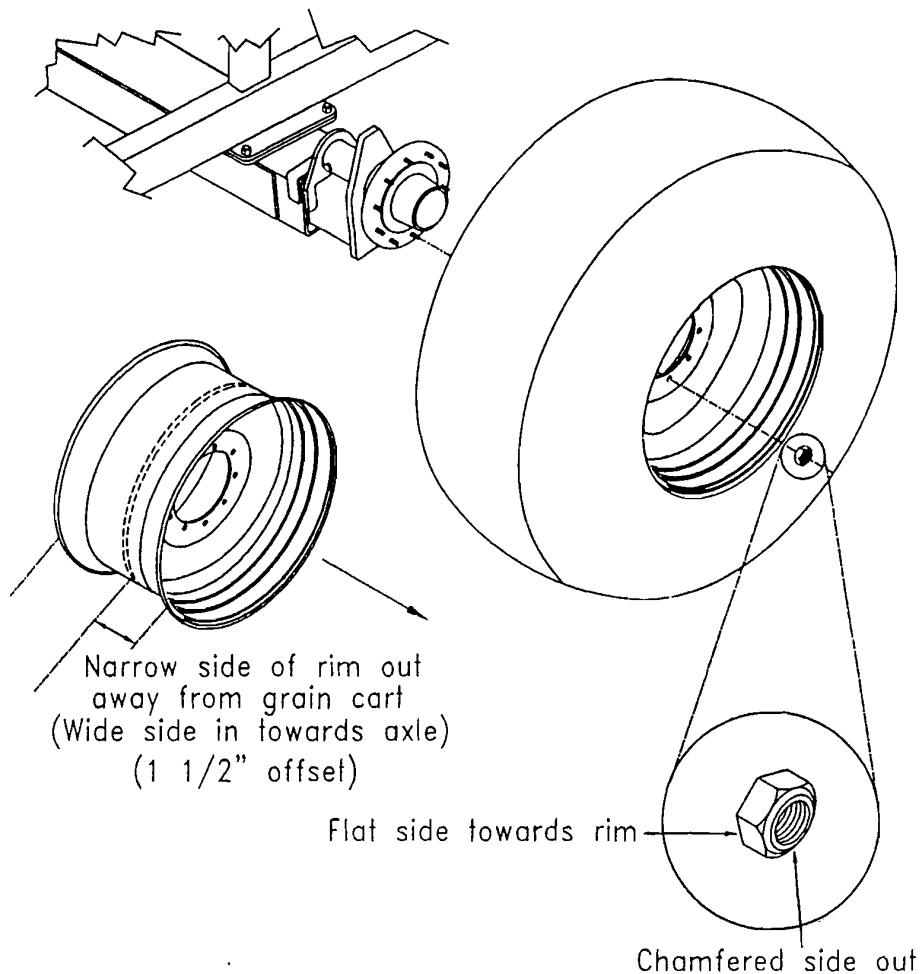

FIGURE 3
3. Mount wheels onto hubs with wide side of rim (1 1/2" offset) in towards cart axle. For proper placement of nuts see Figure 3 below. Torque to 340 lb-ft. Check torque after first hour of operation and weekly thereafter.